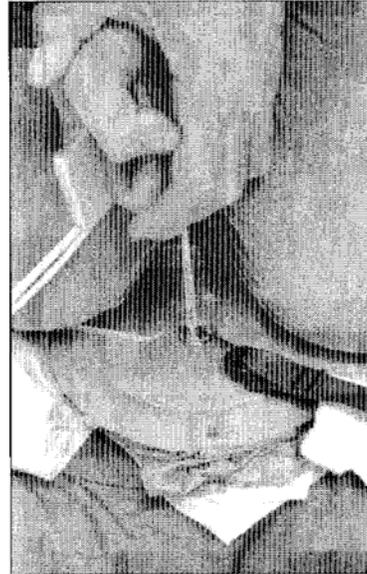

Figure 16
**Step 26** Collapse the pilotchute while stuffing the fabric **INSIDE** the coils. **IMPORTANT!** Do not leave the fabric outside the coils as a coil lock could occur and the launch of the pilotchute may be inhibited. Place the arrow located on the top of the pilotchute towards the top of the container. *Figure 16* Lock with the temporary pin.